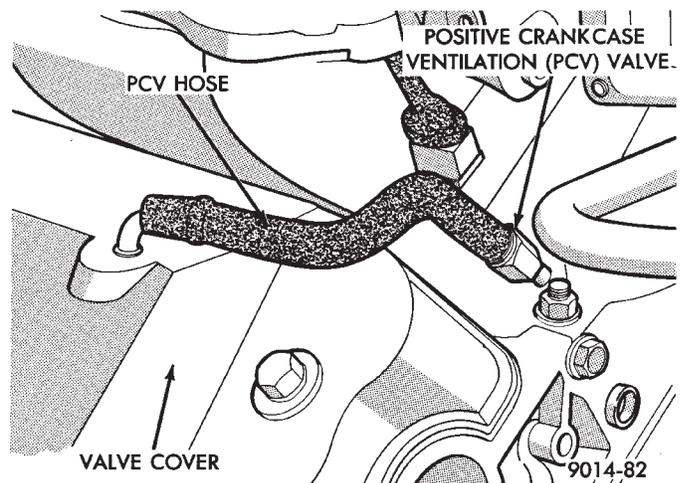

Fig. 8 PCV Valve—3.0L Engine
- (1) Warm engine in Park or Neutral until the cooling fan has cycled on and off at least once.
- (2) Ensure that all accessories are off.
- (3) Hook-up the timing check device and tachometer.
- (4) Disconnect the coolant temperature sensor and set basic timing to 12° BTDC ± 2° BTDC.
- (5) Shut off engine. Reconnect coolant temperature sensor wire.
- (6) Disconnect the PCV valve hose from the PCV valve (Fig. 8).
- (7) Plug the PCV valve nipple.